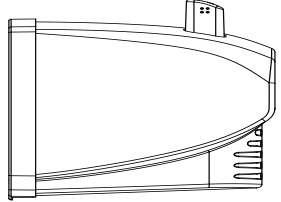

Figure 11
3. OSCILLATION: Push down oscillation knob on motor housing to make Fan head move from side to side. (Figures 11 and 12)